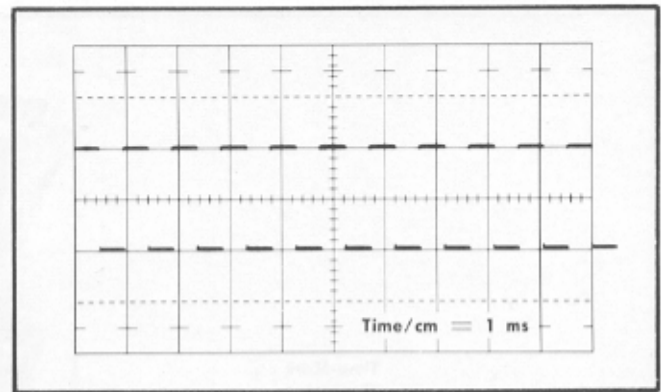

Fig. 6-9. Typical display showing Amplitude Calibrator repetition rate.
- Check—Test oscilloscope display contains 7.5 to 12.5 cycles in 10 divisions (repetition rate is 1 kHz $\pm 25\%$). See Fig. 6-9.